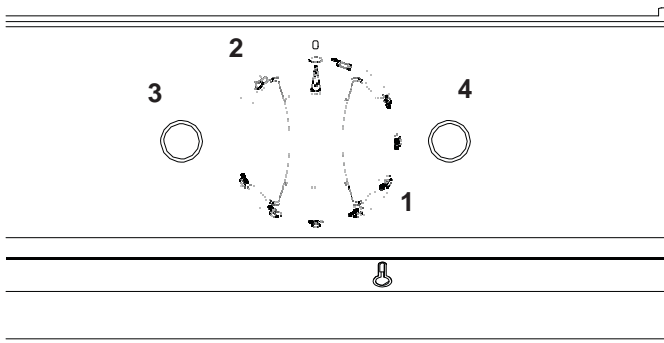

Figure 2 – G3840 Control Panel
2.4.1 G3840 Fryer Control Panel (See Figure 2)
5. Turn control knob to desired temperature (*140°C*) and heat demand indicator will illuminate (*Figure 2, item 4*).